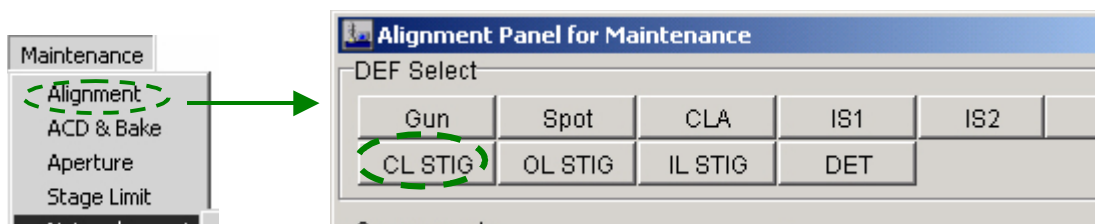

Fig. 5.25 Alignment Panel for Maintenance window (Correcting CL astigmatism)
1. Select **Maintenance** from the **TEM Controller** menu bar and click on **Alignment** to open the **Alignment Panel for Maintenance** window (👉 Fig.5.25).